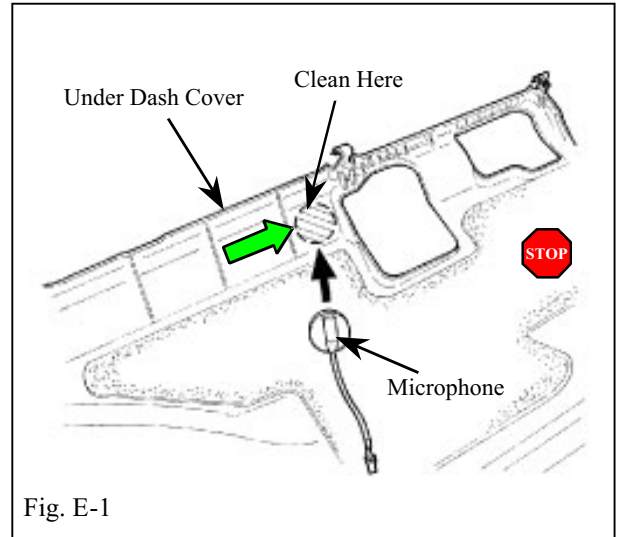

Fig. E-1
- ➡ 1. Using 3M™ Prep Solvent-70, clean the area indicated on the back side of the under-dash cover. (Fig. E-1)
- 2. Remove the backing sheet and secure the microphone to the back side of the under-dash cover. (Fig. E-1)